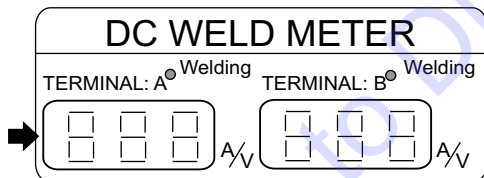

Figure 74. DC Weld Meter Error Codes
- This unit is equipped with **protection** devices. When any of the **major** protection devices are activated, the engine will **automatically stop** and the error code message will be displayed on the DC welding current meter (Figure 74).